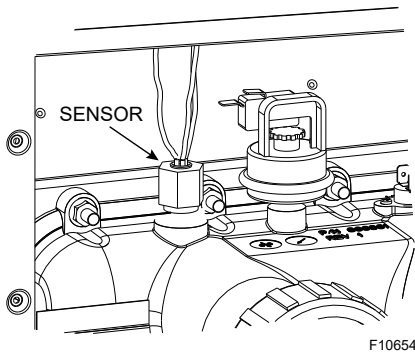

Figure 35. Digital Temperature Sensor Location
3. **Digital Models:** Remove the thermostat temperature sensor by loosening the compression fitting nut. Re-route the sensor to left-side of the heater. See **Figure 35**.
4. Remove (12) nuts holding the inlet/outlet and return headers to the tube sheets. Clean off tube sheet area where the gasket seats. Also clean off the header and the gasket. Apply a non-petroleum-based lubricant to the gasket such as Aqualube. Re-attach the headers to the opposite sides, making sure they are installed in an upright position. Do not over-tighten. Torque should not exceed 7 ft/lb. See **Figure 35**.